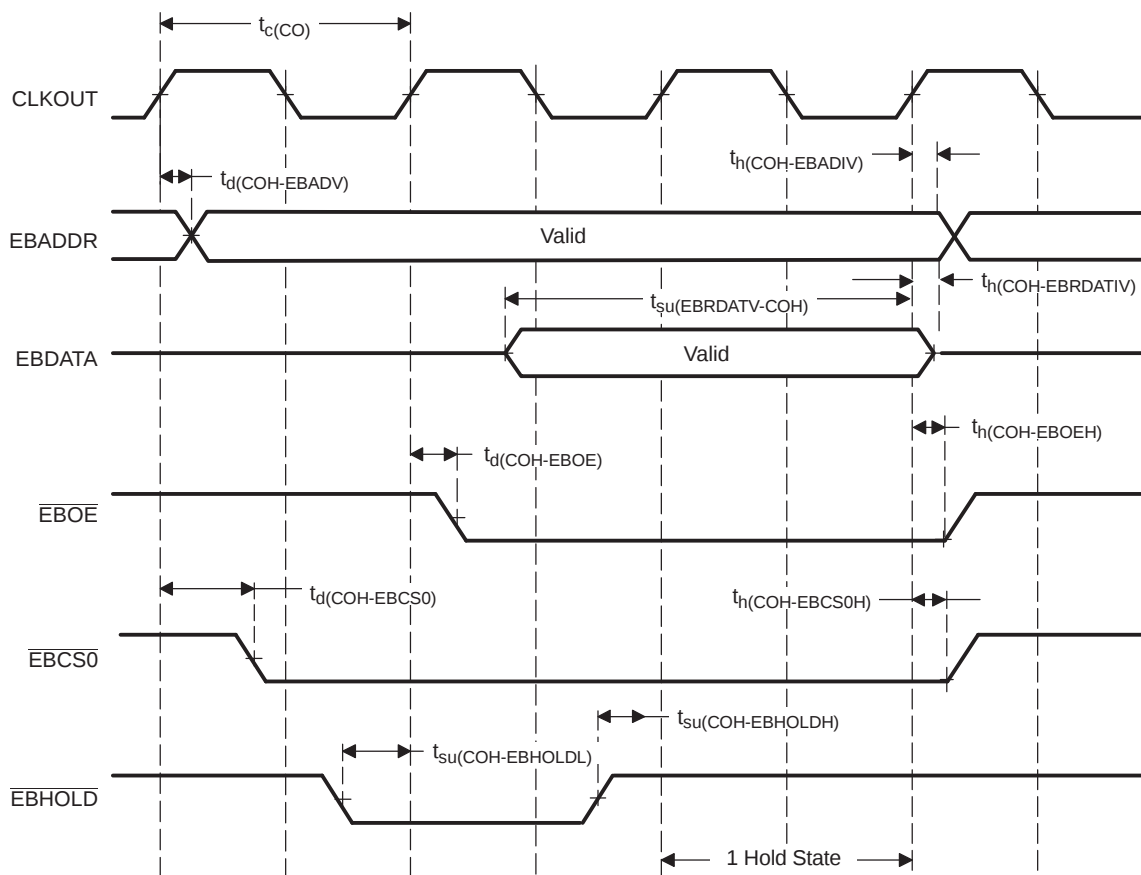
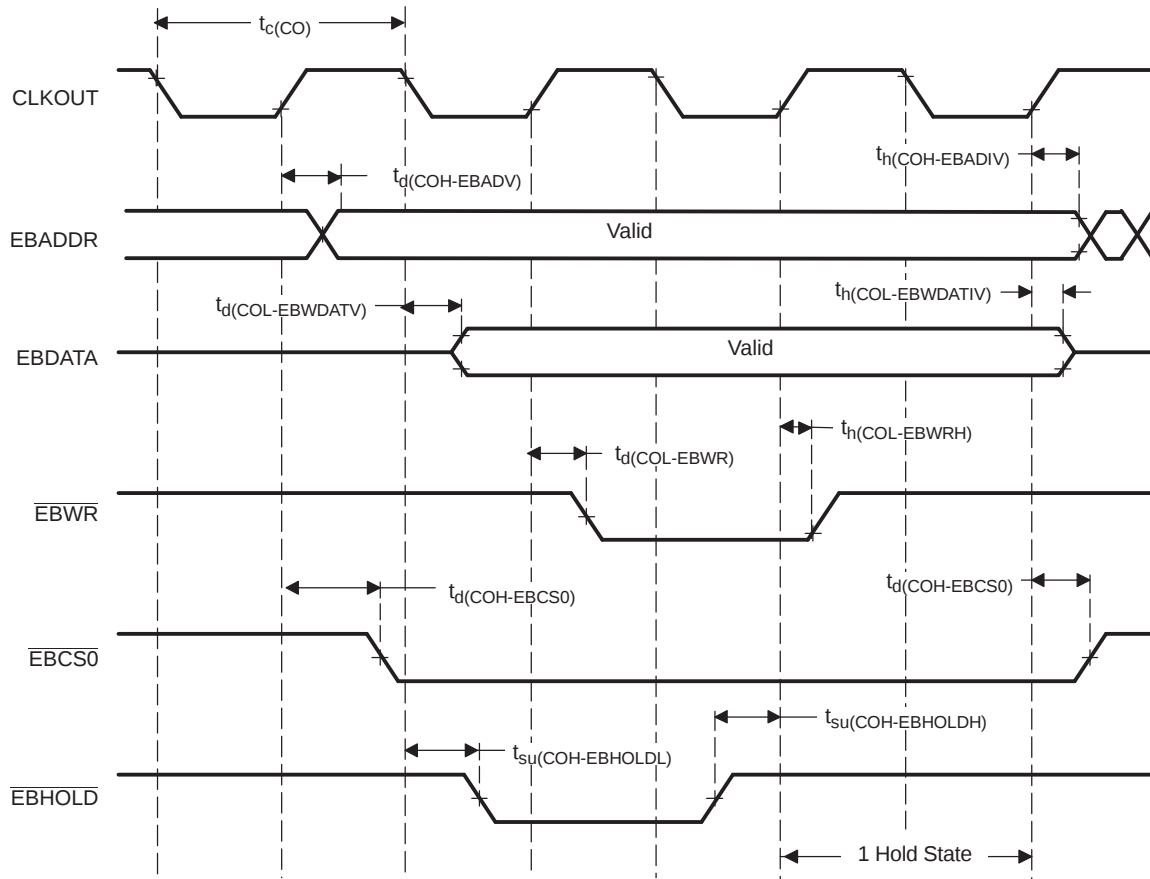

Figure 6-16. Expansion Memory Signal Timing - Reads
Figure 6-17. Expansion Memory Signal Timing - Writes
–55°C ≤ T_A ≤ 220°C, 3.0 V ≤ V_{CC} ≤ 3.6 V (see Figure 6-16 and Figure 6-17)